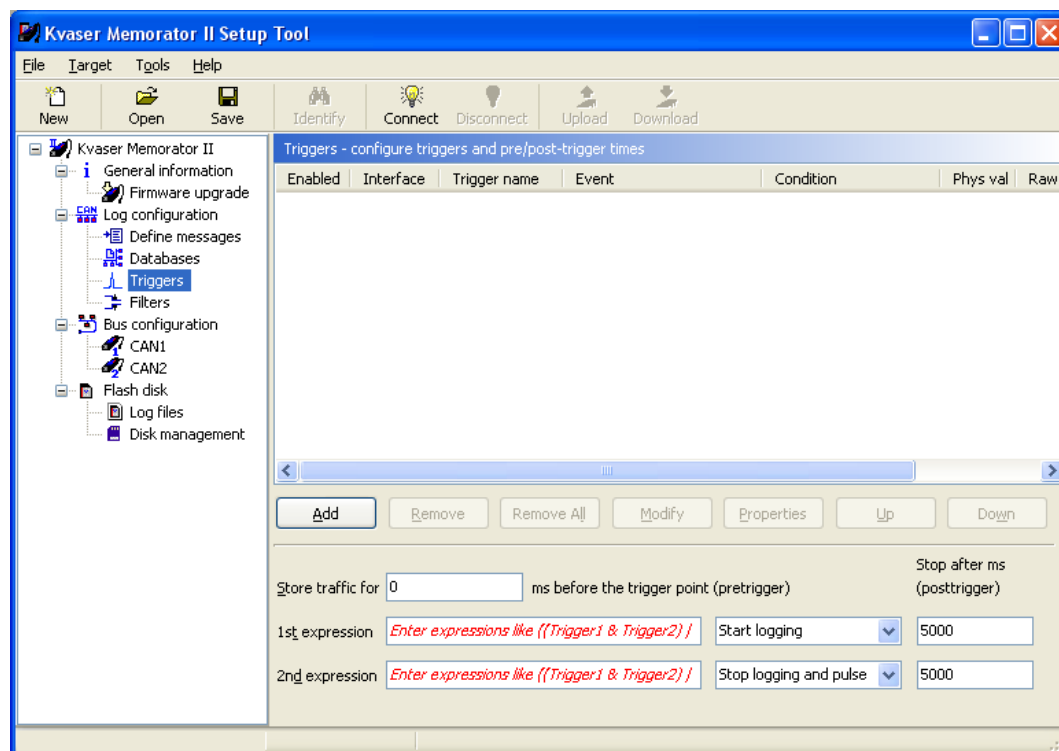

Figure 4 Triggers.
- Click at the *Add* button. See Figure 4.